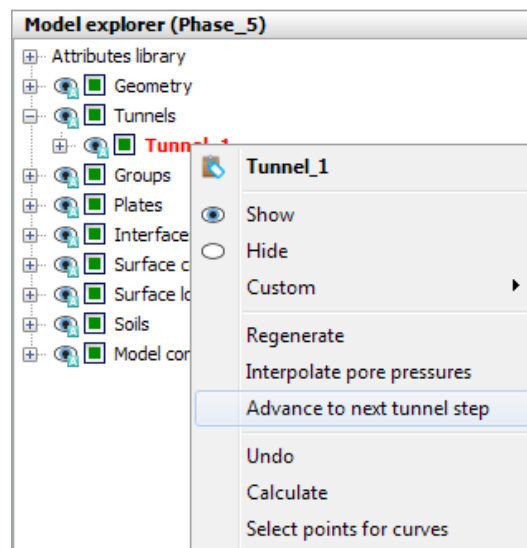

Figure 90: The Advance to next tunnel step option from Model explorer
2. In the **Model explorer** expand *Tunnels* and then expand *Tunnel_1*. Scroll down the *Model explorer* until the option **Advancement step** and set it to 8 in order to simulate the advancement of the first 26.5 m. Alternatively, the Advancement step can be executed as displayed in Figure 90 (on page 113).